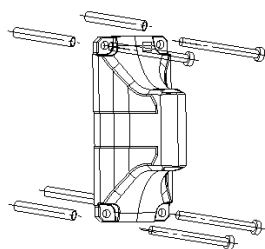

Fig.1
4. Fix the bracket by four self-taping screws accordingly, (Fig.1)